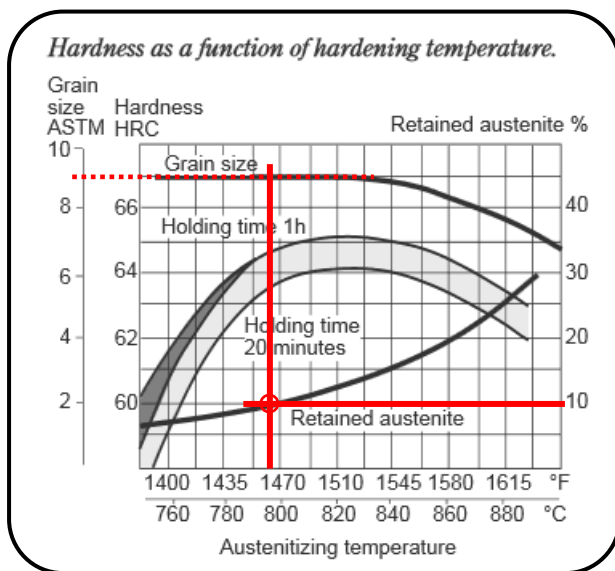

Fig. 5: Grain Size and RA of O1 Tool Steel
Smaller grain size makes steel tougher. My research in this area shows that grain size is a function of the Austenitizing temperature (Fig. 5) and possibly rate of cooling. Since I am using 1460°F (middle the range for fine grain), for O1 Tool Steel, the ASTM grain size number is ~9 (considered to be “Fine”).
RA is controlled by the heat treat process. The chart below (Fig. 5) shows that RA percent is a function of Austenitizing Temperature (AT). At 1460°F, for O1 Tool Steel, RA appears to be ~10% (some charts show higher RA). Per the chart below (Fig. 5), increasing the AT temperature above ~1515° F can begin to significantly increase RA percentage as well as increasing grain size. These two factors can reduce the toughness of a throwing knife.
Based on what we have learned, so far, we are definitely staying with O1 tool steel, at least for now. It appears to be the toughest stuff we can find at our target hardness! We are currently using the stated approaches and values (Fig. 5 and 6 targets) for heat treating all of our knives.